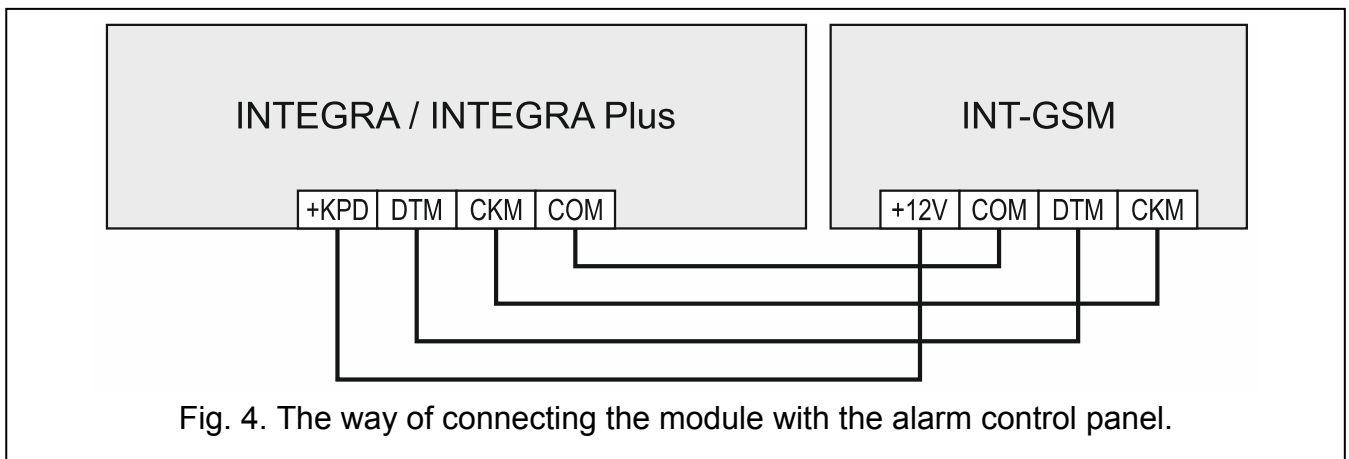

Fig. 4. The way of connecting the module with the alarm control panel.
1. Connect the +12V, COM, DTM and CKM module terminals to the control panel terminals (Fig. 4). To connect the +12V and COM terminals, use flexible conductors with a cross-section of 0.5-0.75 mm², or rigid conductors with a cross-section of 1-2.5 mm². If you use the "twisted pair" type of cable to connect the DTM and CKM terminals, keep in mind that the CKM (clock) and DTM (data) signals must not be transmitted using one pair of twisted wires. The wires must be run in one cable.